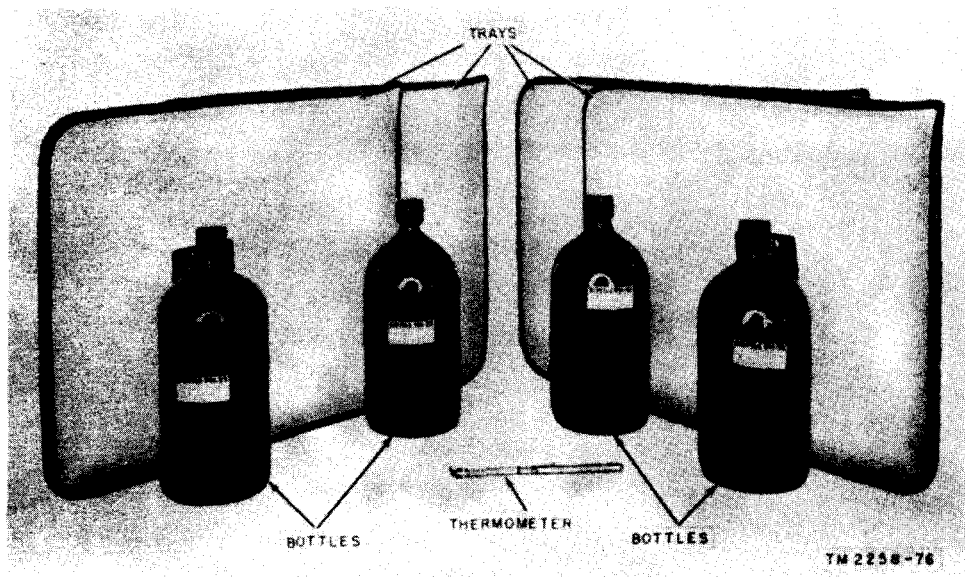

Figure 4. Photographic equipment PH-549/TXC-1.
*d. Photographic Equipment* (fig. 4). Photographic Equipment PH-549/TXC-1 is supplied with Facsimile Transceiver AN/TXC-1\*. This equipment consists of one thermometer, four Bottles PH-22, and four trays.